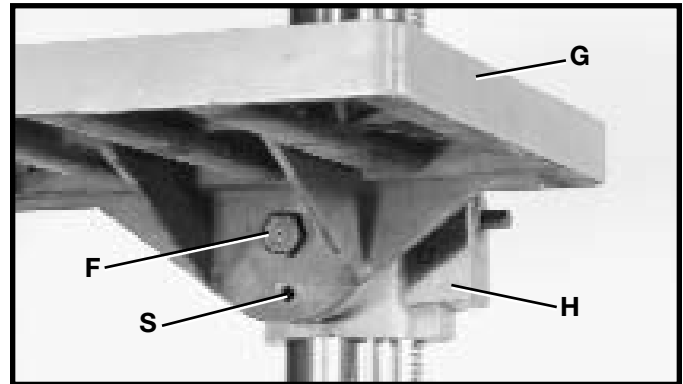
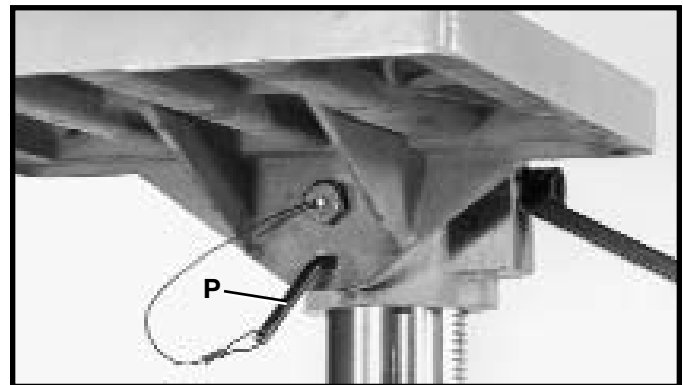

Fig. 8
Fig. 9
9. Assemble table (G) Fig. 8, to table bracket (H) using bolt (F). Line up hole (S) in table with hole in table bracket and insert pin (P) Fig. 9.